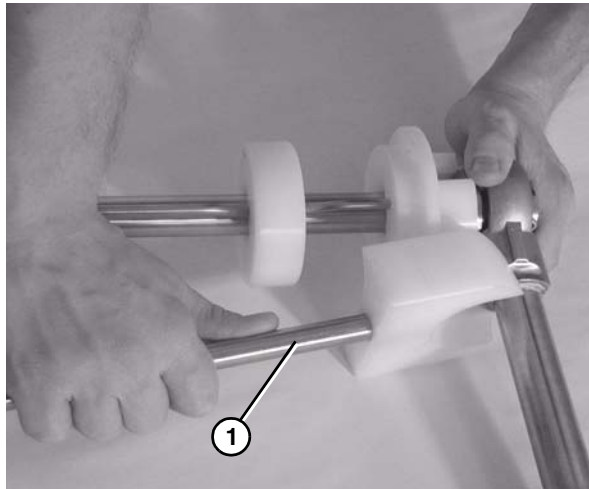

Figure 72
4. Attach the guard bar (Figure 72, item 1).